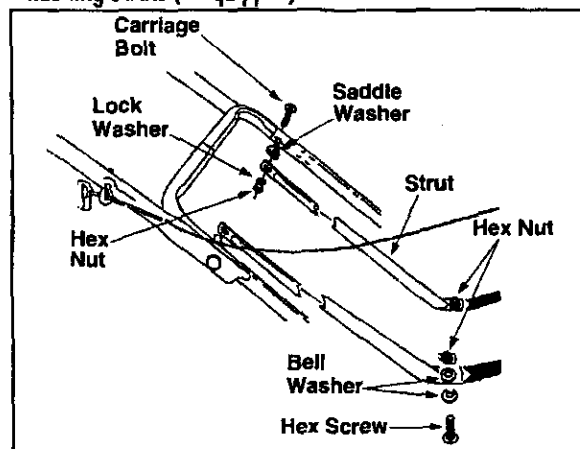

Figure 10
- Once the upper handle is secured, removed the wing nut from one side of the of the handle and discard. See Figure 10.